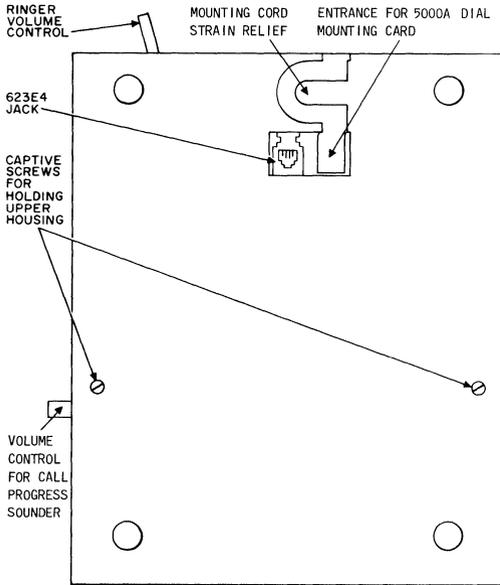

Fig. 3—Bottom of 5100AM Transaction II Telephone Base Showing Upper Housing Screws and Mounting Cord Jack
- (1) Disconnect power plug from AC outlet, if connected.
- (2) Invert set and loosen the two captive screws holding the upper housing and chassis (Fig. 3).